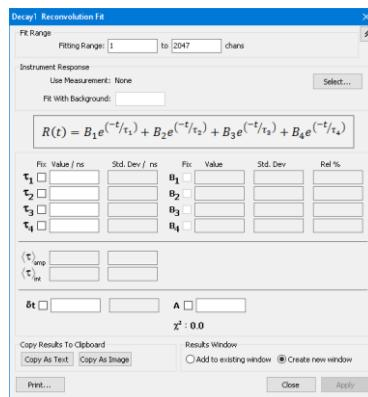

Figure 9-6: Reconvolution Fit dialogue box
- 20-4 Select **Data > Exp. Reconvolution Fit...** This will open up a the dialogue box as shown in Figure 9-6. The fitting range shown on top of the dialogue box is inherited from the zoom in step 18-3 above.